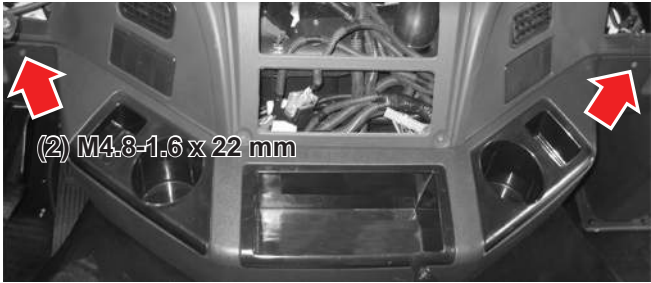

Figure 22-1
1. Reinstall the five screws securing the lower instrument panel skirt (see Figure 22-1).